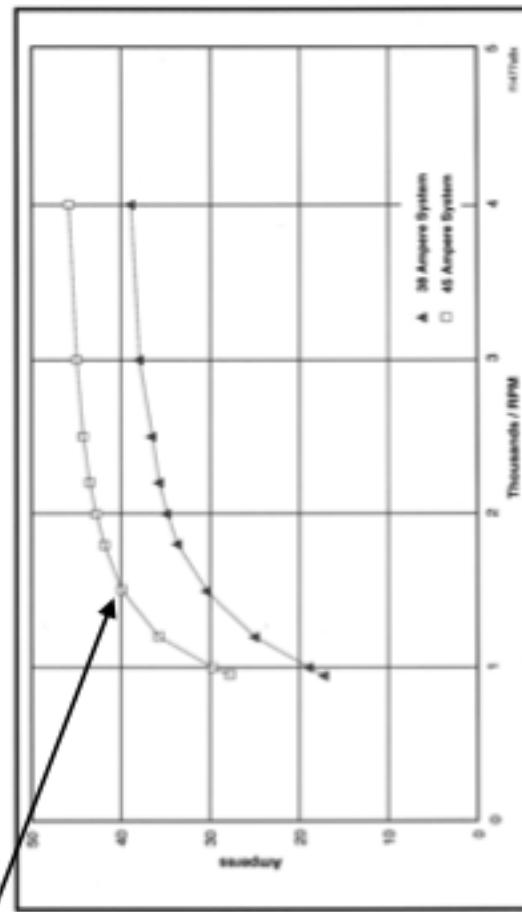

Figure 8-40. Charging System Current Output Curves
2. Run the engine at 3000 rpm and increase the load as required to obtain a constant 1:3.0 volts. See Figure 8-40. The current output should be as follows. Make note of the measurement.